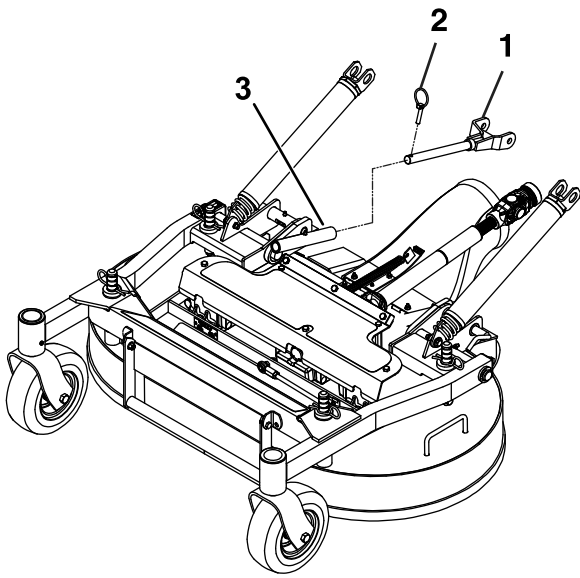

Figure 78
7. Remove the lynch pins at the front of the push arms on both sides of the machine (Figure 78).
7. Secure the push arms with the lynch pins on the left and right sides of the machine (Figure 78).